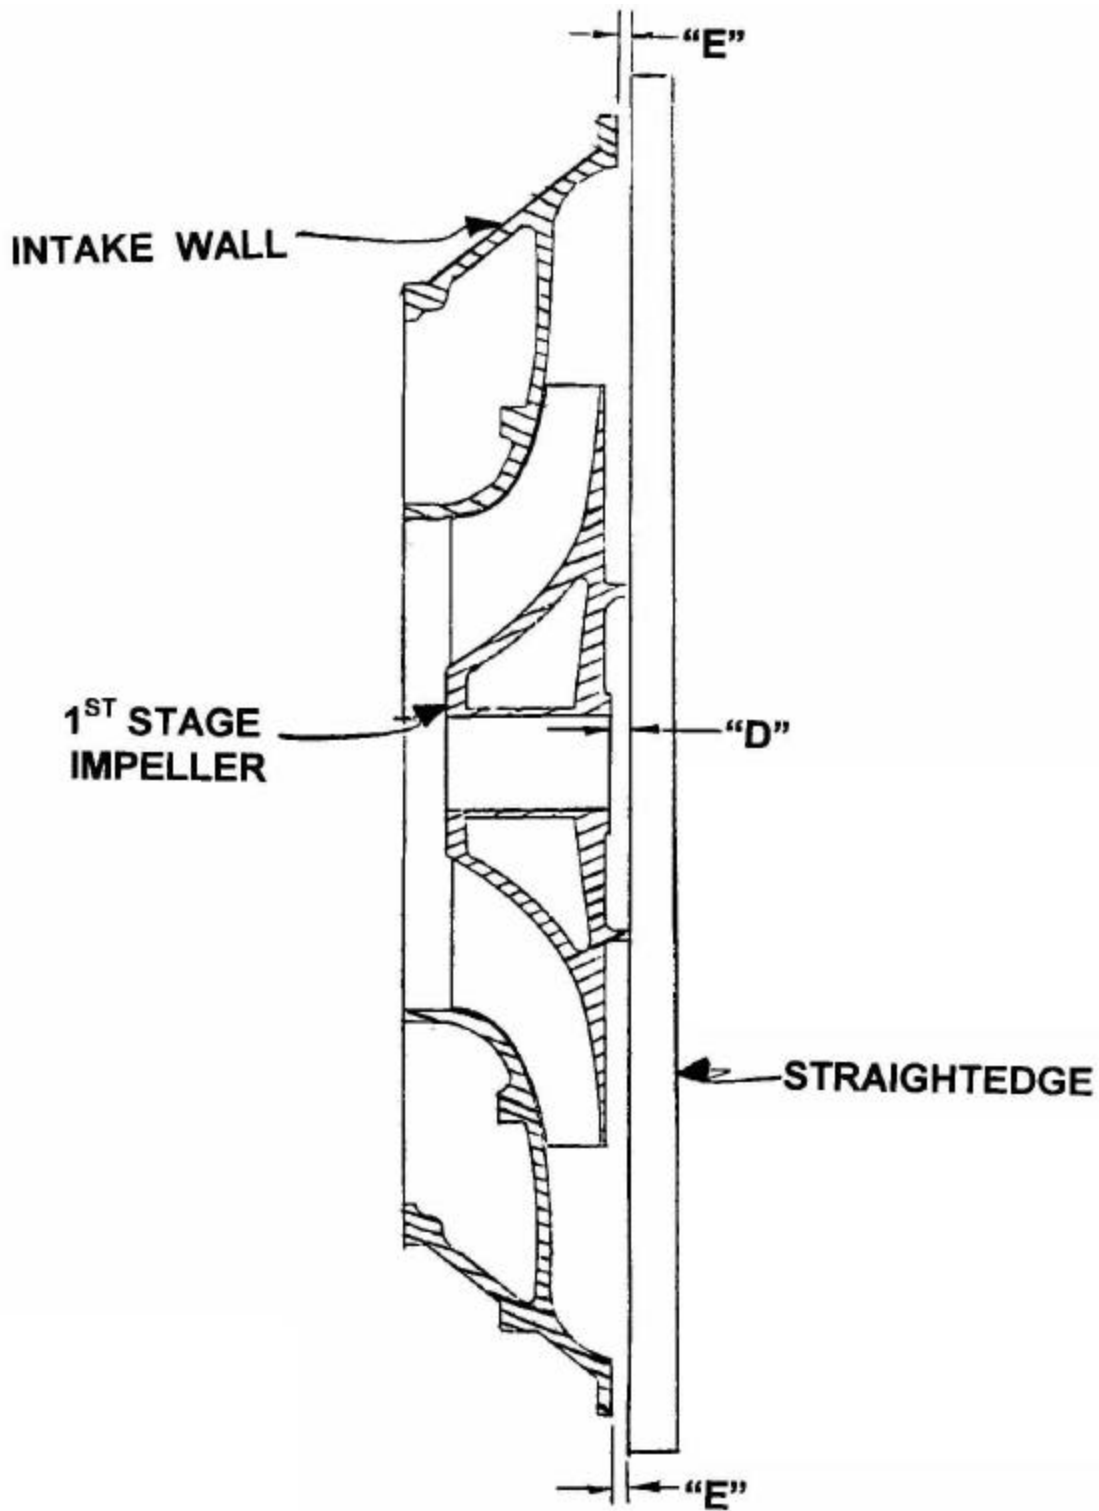

FIGURE 6
- c) Place intake wall face down on the floor. (See figure 6) Place first stage impeller inside the intake wall.